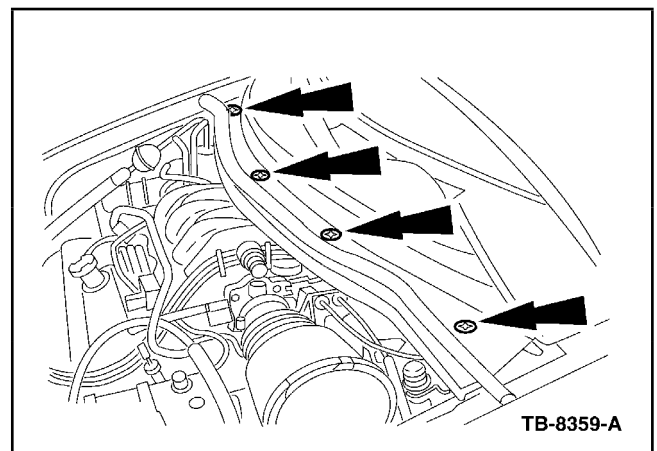

Figure 12 - Article 05-23-7
19. Install four (4) new pushpin screw/rivets to secure the upper cowl to the lower cowl. Add Clear Silicone Rubber (TA-32, or equivalent) to the four (4) pushpin screw/rivets to make a watertight seal around them (Figure 12).